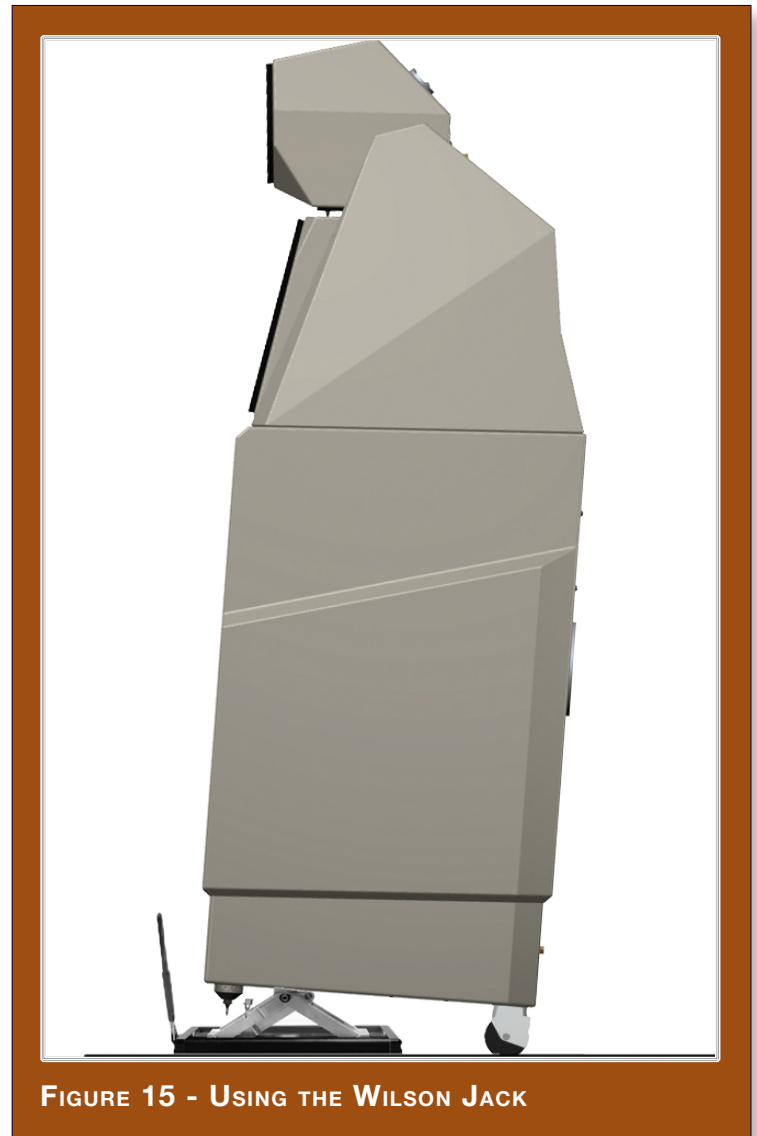

FIGURE 15 - USING THE WILSON JACK
- Slide the Wilson Audio Jack under the front of the MAXX, centered between the casters, so that the jack's lift bolt is exposed. Place the lift plate so it is positioned about an inch behind the front of the MAXX woofer enclosure (see Figure 15).